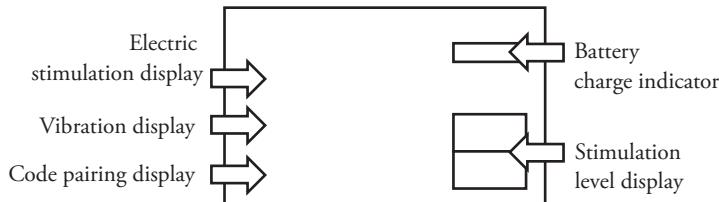

figure 8 – Remote Transmitter
4. You can monitor the battery level in the Remote Transmitter LCD Display, by checking the Battery Character Indicator (*figure 8*).
Press the  button to send an Electric Stimulation to the Receiver Collar. When the Electric Stimulation is successfully sent, the Remote Transmitter will display on the LCD a number between 1 and 7 indicating the Correction Level applied and the Electric Stimulation symbol (*figure 8*). If the Electric Stimulation is not sent successfully, the Correction Level number and the Electric Stimulation Symbol will not display on the Remote Transmitter. If the  button is held down, an Electric Stimulation will be sent for five consecutive seconds, turn off for five seconds, and then be sent for another five consecutive seconds, continued indefinitely, until the user releases the  button.
Press the  button to send a Vibration to the Receiver Collar. Each Vibration lasts for three seconds and will continue indefinitely. If the Vibration is sent successfully to the Receiver Collar, the Remote Transmitter LCD will display the Vibration Symbol (*figure 8*).